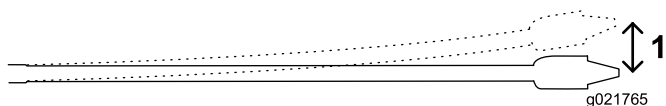

Figure 49
The 3 m (10 ft) pipes used on this machine can flex to an 8% pitch over the length of the pipe; this equates to a bend of no more than 20 cm (8 inches) off of a straight path (Figure 49).
- You insert the first 3 m (10 ft) of drill bit/pipe into the ground with no steering. The end of the drill bit will be 76 cm (30 inches) deep (Figure 49).